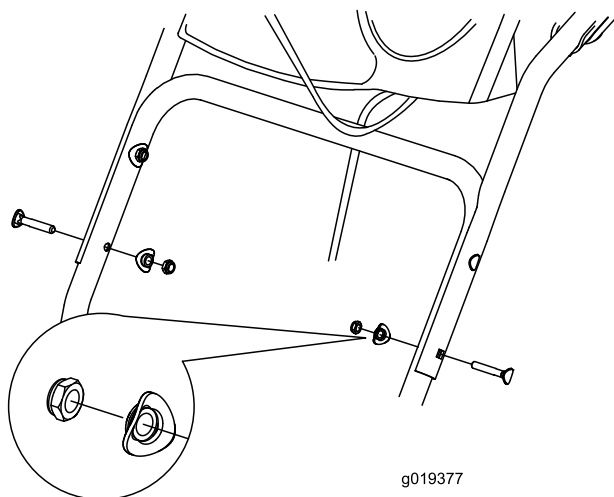

Figure 3
1. Lift and rotate the upper handle and position it over the lower handle (Figure 3).
2. Install 2 handle bolts, 2 curved washers, and 2 locknuts in the lower handle holes (Figure 3).